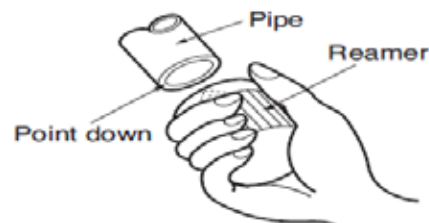

Figure 11: Removing Burrs for Piping
- Completely remove all burrs from the cut cross section of pipe/tube (Figure 11).